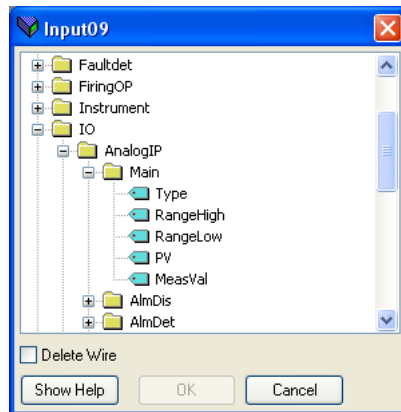

Figure 134 Browser window
1. Double click the next available position in the input or output data table and select the variable to assign to it. A pop-up (figure 134) provides a browser from which a list of parameters can be opened.